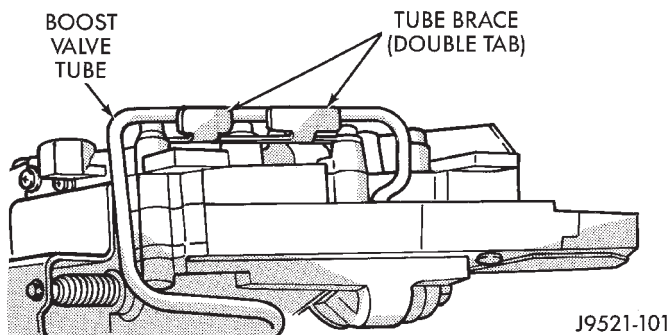

Fig. 55 Boost Valve Tube Brace
(26) Bend back tabs on boost valve tube brace (Fig. 55).